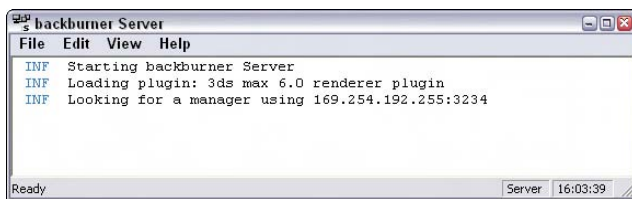

Figure 45-7: Starting a network server. Notice that the server is already looking for the manager.
2. Now start a network server on each computer that you plan to use for rendering. To do this, find and start the Server.exe program just like you did with Manager.exe. When you start this program for the first time, the backburner Server General Properties dialog box appears. This dialog box is covered later in the chapter. Click OK, and the Network Server window appears, as shown in Figure 45-7.